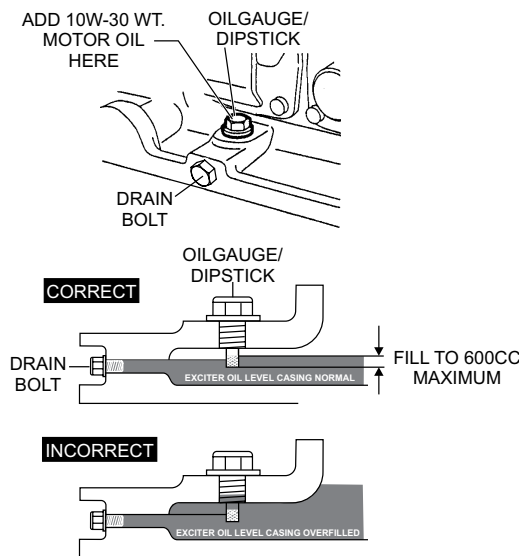

Figure 30. Vibrator Oil Drain and Check Plugs
1. In every 100 hours of operation, with the machine positioned horizontally, use a 3/4" (19 mm) wrench and remove vibrator oil level gauge/dipstick (Figure 30). Visually inspect and see if vibrator oil level is up to filler port. Be sure to clean area around check hole to prevent dirt and dust from entering.
3. Using a 14 mm wrench remove the vibrator oil drain plug (Figure 30) from the vibrating plate assembly.
4. After hydraulic oil has been completely drained from machine, fill with 10W-30 motor oil to the appropriate safe operating level (Figure 30).